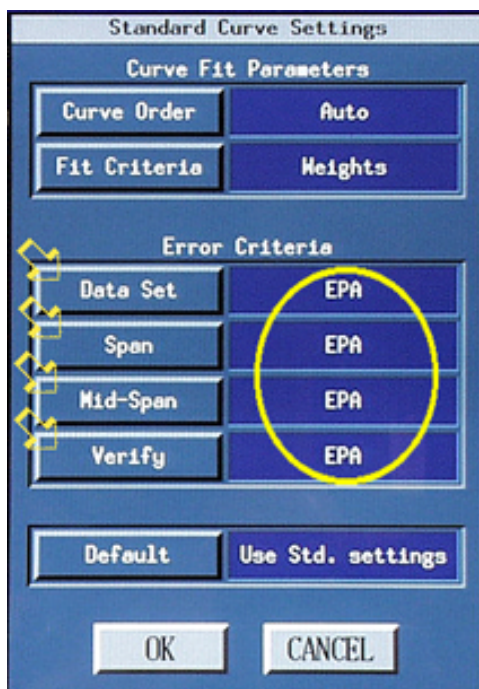

Figure 20
- 127 Under "Error Criteria," verify that all fields contain "EPA." If not, click on the appropriate button. See the arrows in Figure 20. Select "EPA." See the circle in Figure 20.